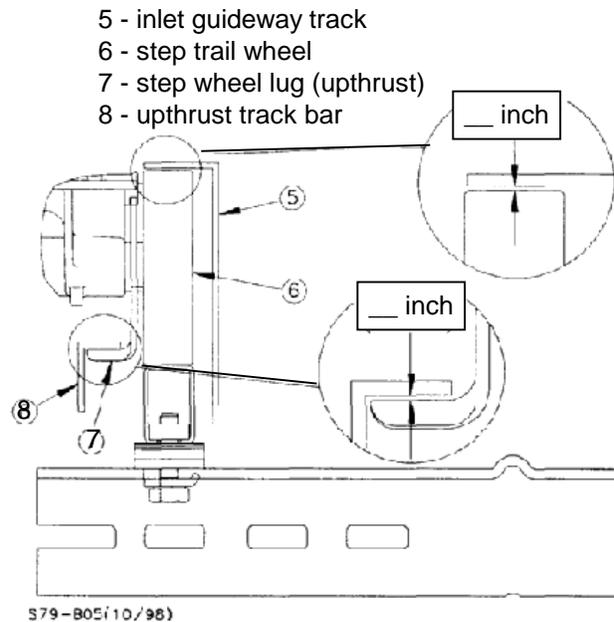

Figure 8-10j O&K Step Chain Wheel Upthrust Clearance
87. What is the clearance between the step trail wheel lug and the upthrust track bar in figure 8-10j?
88. What is the clearance between the inlet guideway track and the step trail wheel in figure 8-10j?